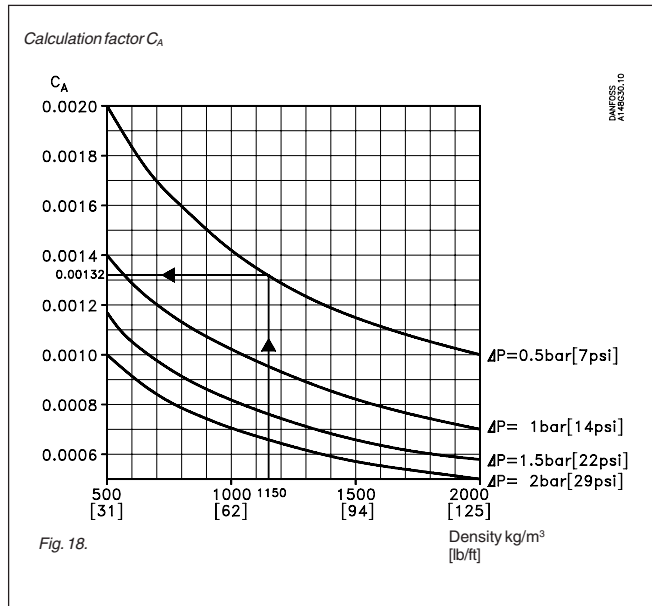

Fig. 18.
- $C_A$  Calculation factor (fig. 18).
Either use the curves of the  $k_v$ -values instead (fig. 3 - 7) and calculate the required  $k_v$  by means of the formulas in the "Introduction" passage at the beginning of this chapter. Alternatively calculate the  $k_v$ -values by means of the calculation factor  $C_A$  (fig. 18) and the flow rate diagram (in this example: fig. 4) as per the following calculation example.
$C_A = 0.00132$  (from fig. 18)